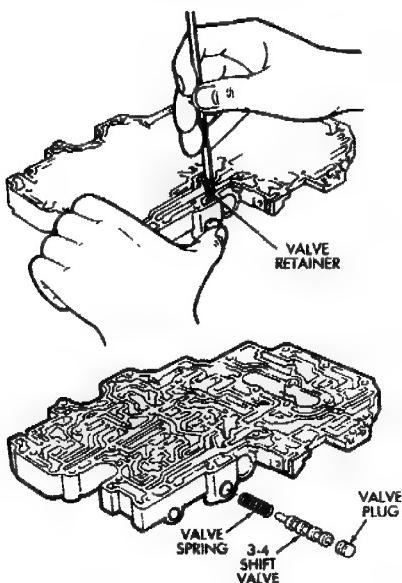
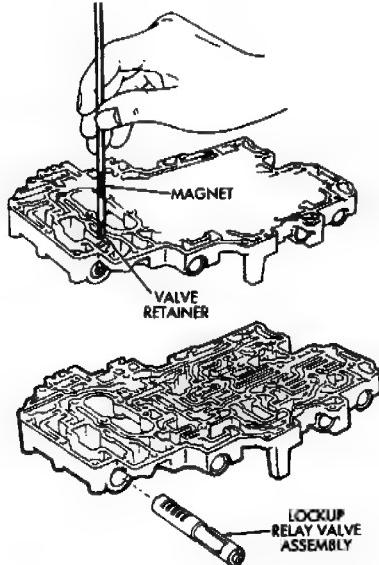

Fig. 6 Removing/Installing 3-4 Shift Valve
Fig. 8 Removing/Installing Lockup Relay Valve
(6) Remove 3-4 shift valve retainer with magnet and remove valve plug, spring and 3-4 shift valve (Fig. 6).
(7) Remove second coast modulator valve retainer and remove valve plug, spring and valve.
(8) Remove lock-up relay valve retainer and remove relay valve and sleeve assembly (Fig. 8).
(8) Install assembled lock-up relay valve in valve bore and install retainer (Fig. 8).
(10) Install 3-4 shift valve, spring and plug in bore. Press plug inward and install retainer (Fig. 6).